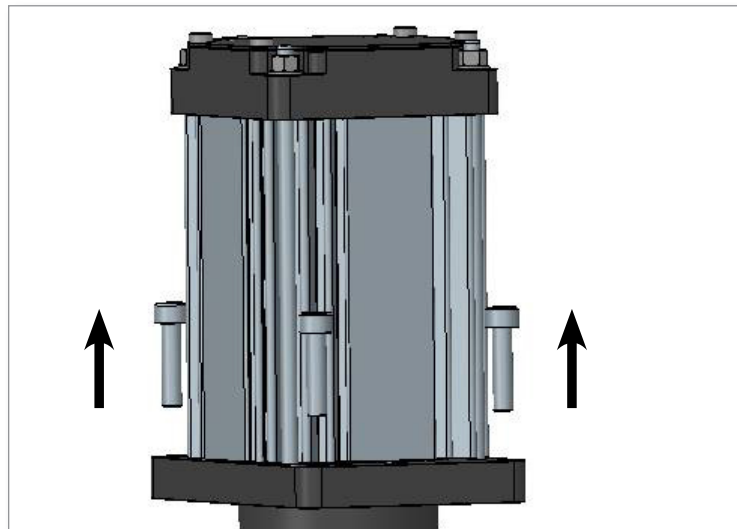

Figure 6-14 Remove the four mounting screws
3. Remove the four SHCSM6X25 mounting screws. See Figure 6-14.